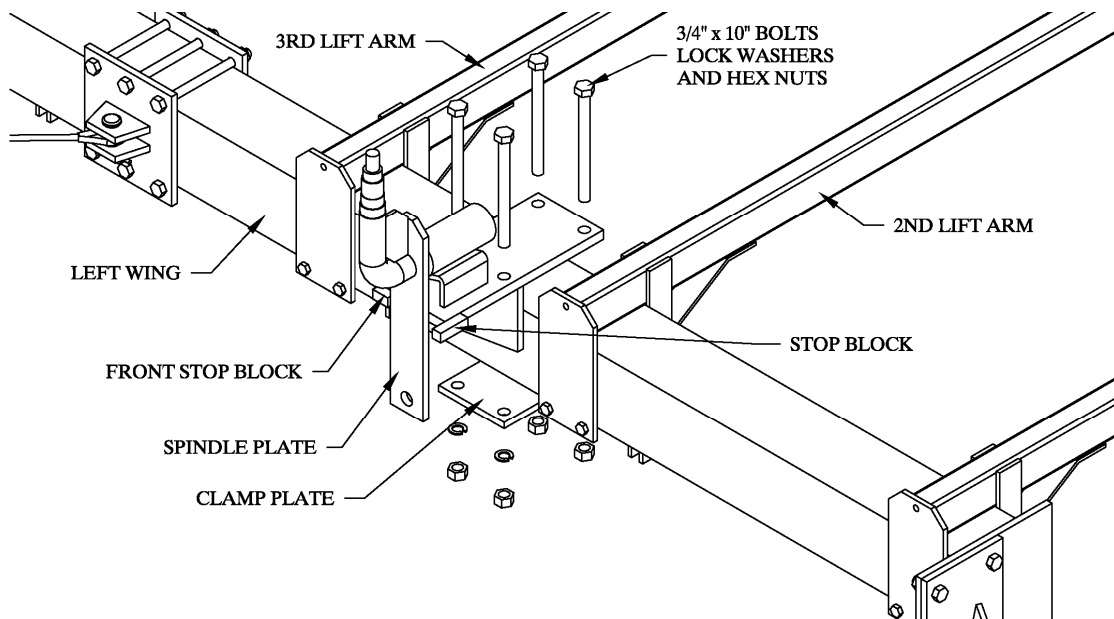

Figure 20
1. Attach the transport wheel axle assemblies to the wings between the 2nd and 3rd lift arms (counting from the field position wing wheel end of the wings). Use eight 3/4" x 10" bolts, lock washers, and hex nuts. If installing the Hydraulic Transport option, be sure to mount it 10" from the flat edge of the hydraulic transport cylinder post. Refer to Figure 20. Note that there are right and left hand transport axle assemblies. When the spindle is orientated in the vertical direction (field position) as shown in Figure 20, the spindle plate should be in contact with the front stop block.